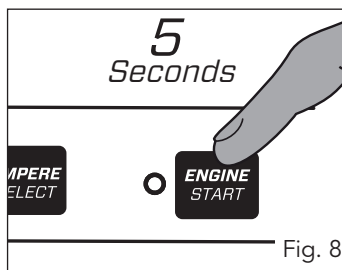

Fig. 8
3. Press the Engine start button (6) for 5 seconds (fig. 8). This activates the jump start function. The charger checks the existing battery voltage.